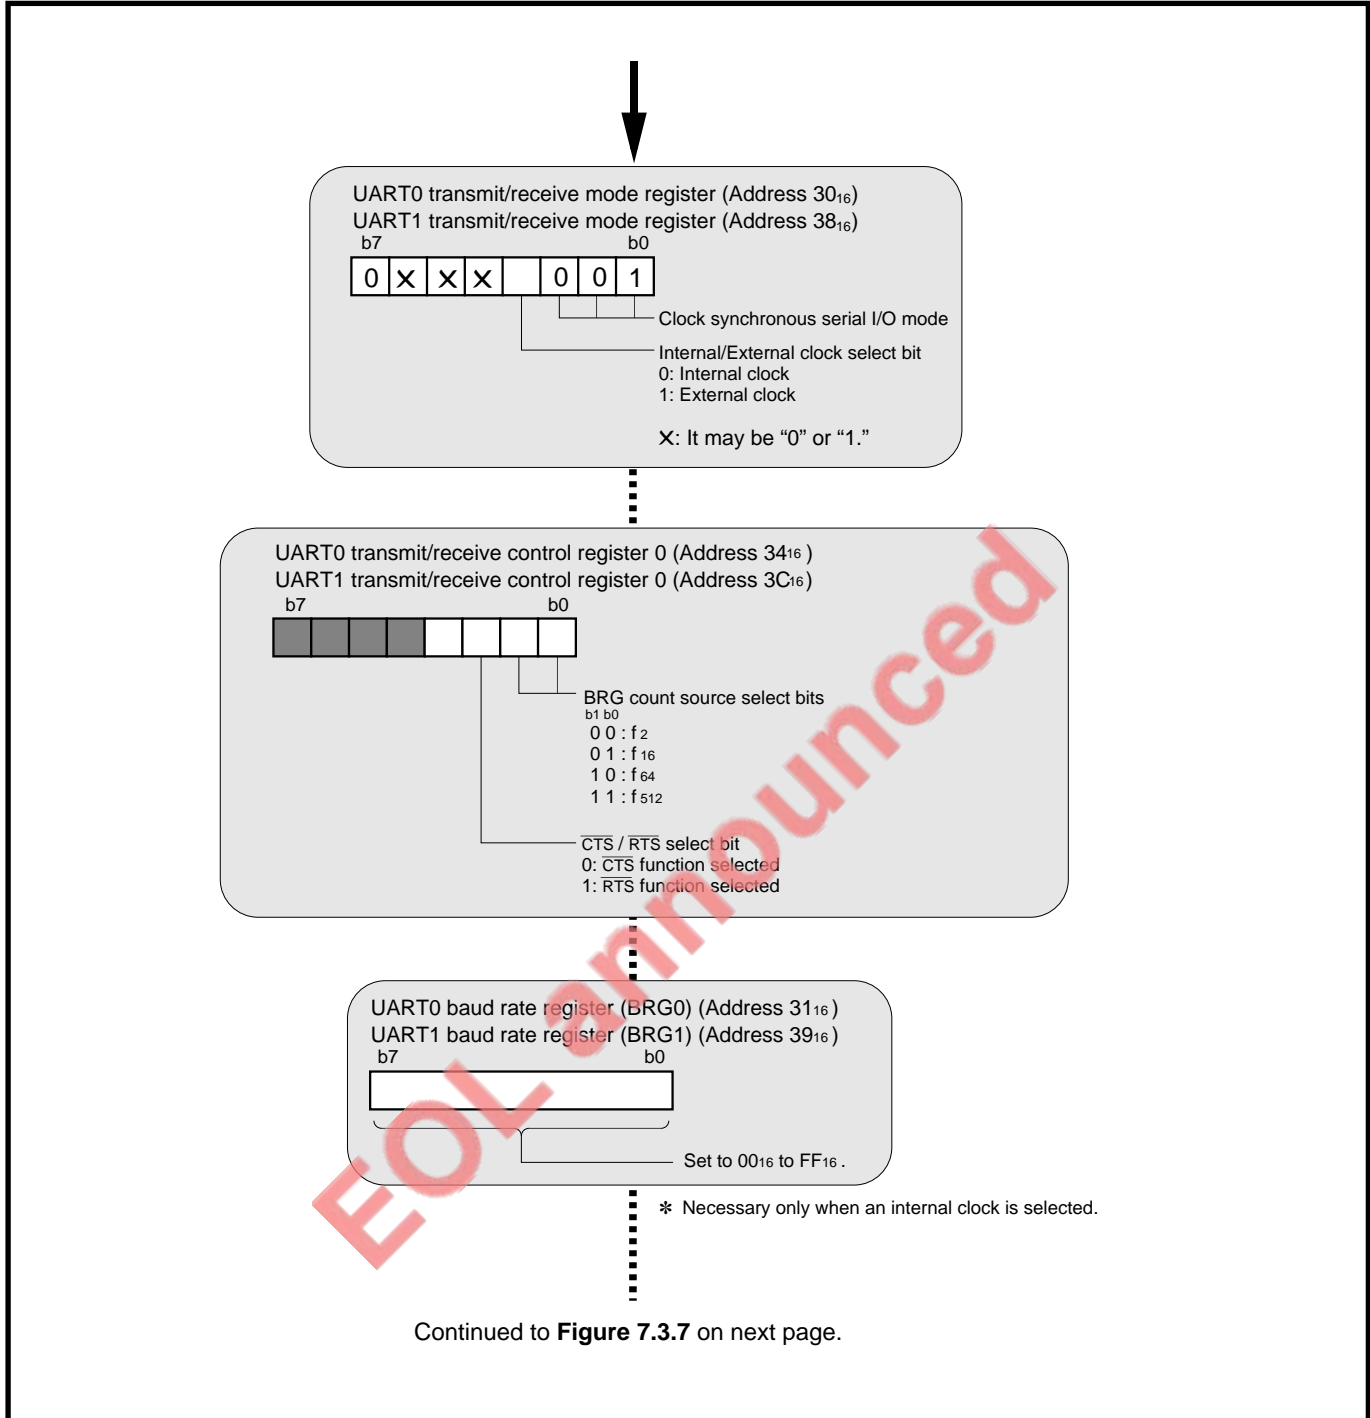

Fig. 7.3.6 Initial setting example for relevant registers when receiving (1)
Figures 7.3.6 and 7.3.7 show initial setting examples for relevant registers when receiving. Reception is started when all of the following conditions (① to ③) are satisfied. When an external clock is selected, satisfy conditions ① to ③ with the following precondition satisfied.